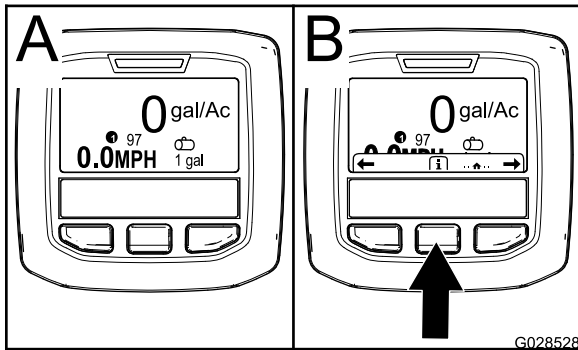

Figure 59
- After approximately 15 seconds, the home screen appears. Press the center selection button to display the information context (Figure 59).